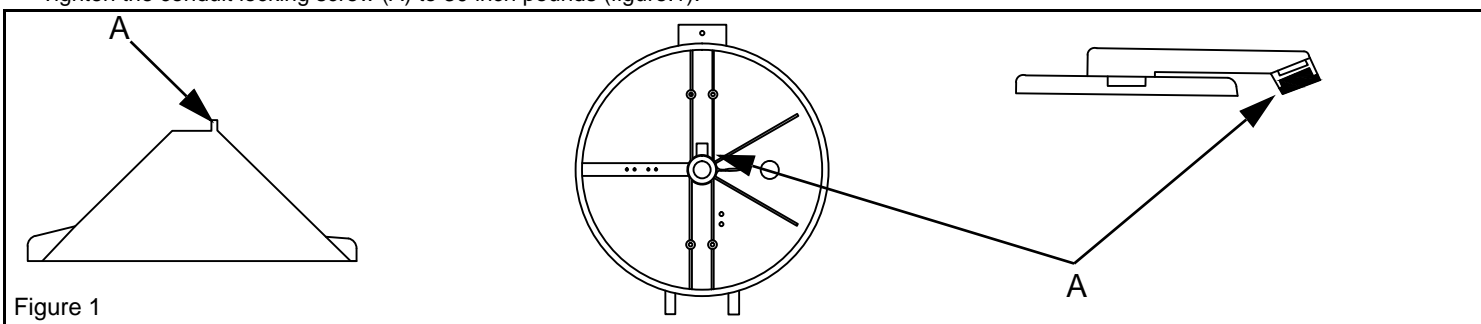

Figure 1
Screw the luminaire mount onto previously install conduit, a minimum of 3 threads must be engaged between the conduit and luminaire mount. Tighten the conduit locking screw (A) to 30 inch pounds (figure.1).